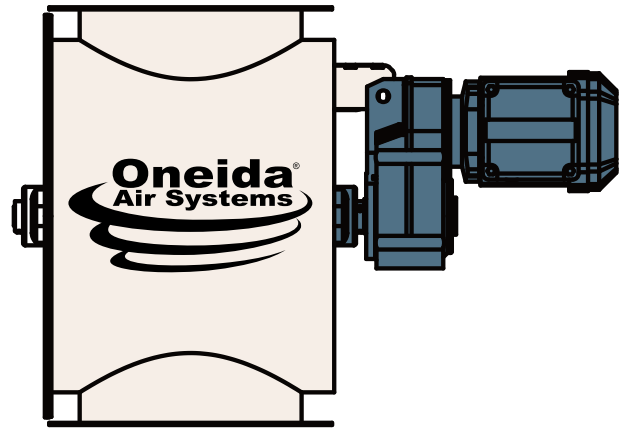

FIG. 9
- 9** Make sure that the Air Lock is installed so that the labels read right side up [FIG. 9].